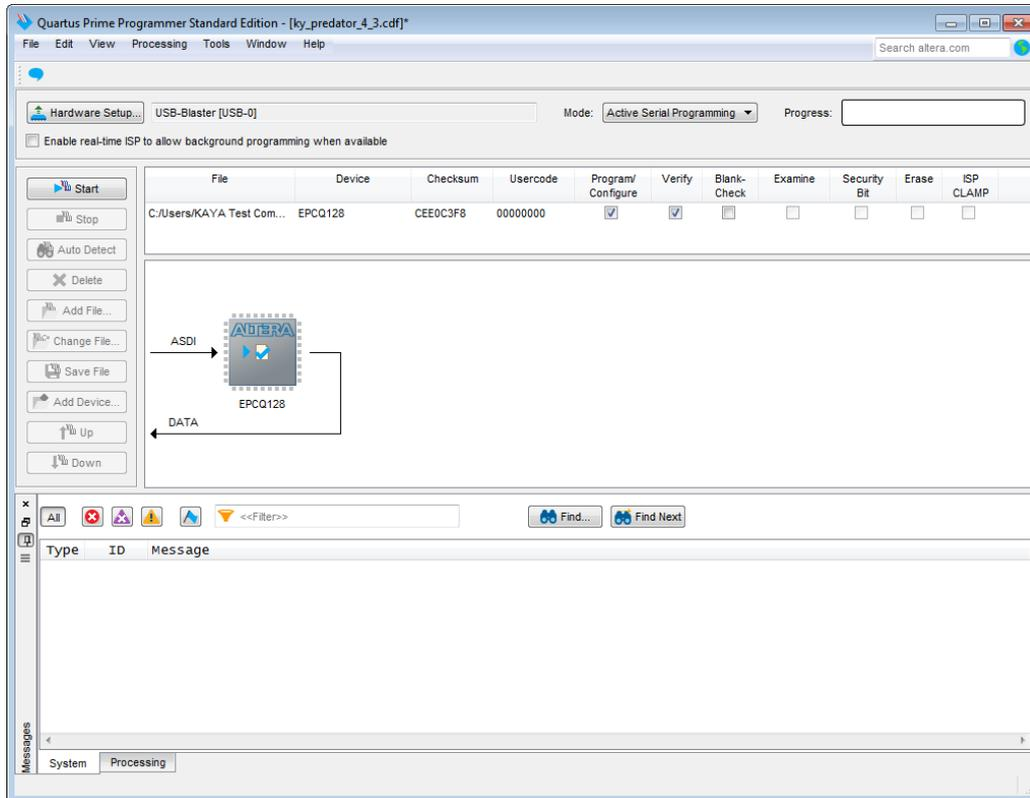

Figure 5 : Quartus – Programming Configuration
5. Check “Program/Configure” and “Verify” options, in the check box as shown in Figure 5.